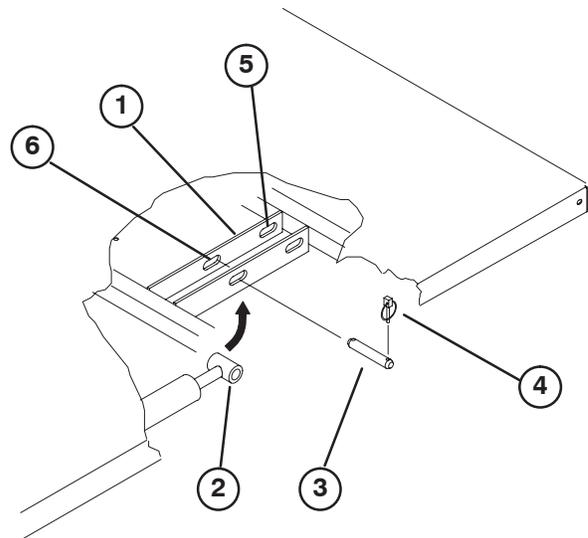

Figure 9
- Remove lynch pins from outer ends of cylinder rod clevis pins (Fig. 9).